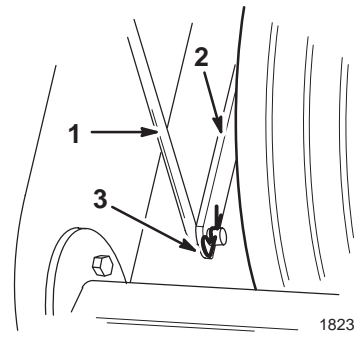

Figure 5
- Secure the lower end of the height control rod to the bracket on the front wheel support with a hairpin cotter (Fig. 5).